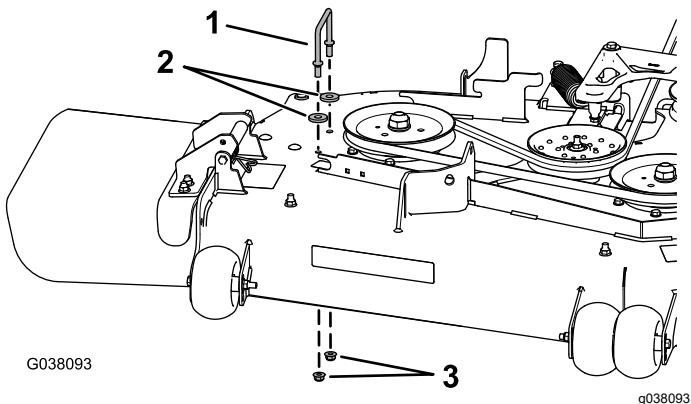

Figure 16
3. Remove the right belt-cover bracket, **2 washers (60-inch mower deck only)**, and 2 flange nuts from the mower deck (Figure 16).